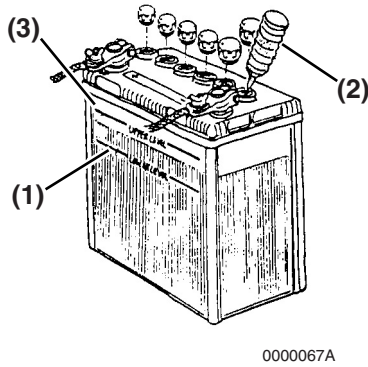

Figure 1
- When the amount of fluid nears the lower limit (**Figure 1, (1)**), fill with distilled water (**Figure 1, (2)**) so it is at the upper limit (**Figure 1, (3)**). If operation continues with insufficient battery fluid, the battery life is shortened, and the battery may overheat and explode. During the summer, check the fluid level more often than specified.